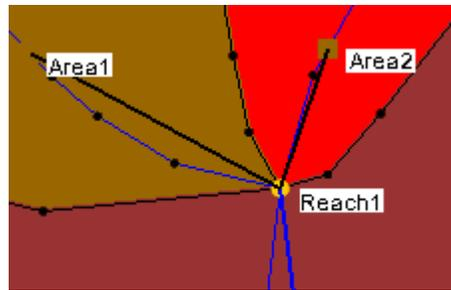

Figure 3 Reach1 outlet
1. Using the **Select outlet**  tool, select and right-click on the “4C” outlet (Figure 3) and select the **Add | Reservoir** menu item.